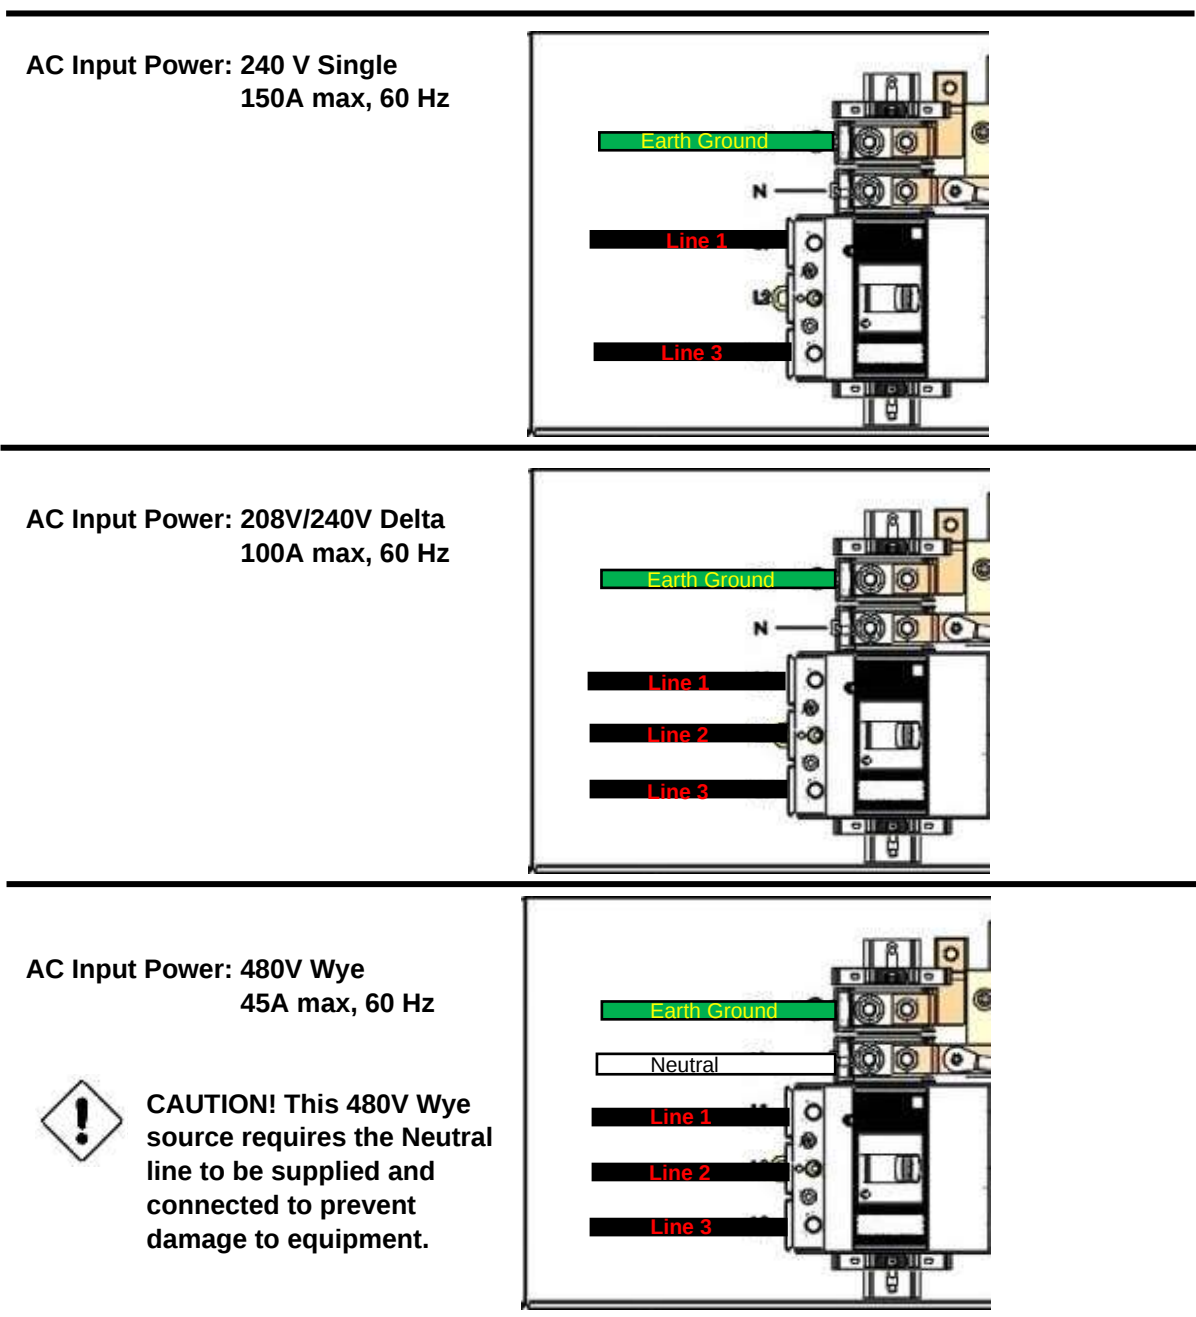

Figure 33—AC Input Power Wiring for Different AC Input Power Configurations
9. Notice the three AC input power wiring configurations shown in Figure 33, then select the wiring configuration needed for this charger.
- 10.** Wire AC Input Power to charger's AC Main Switch lugs per Figure 33 and local and national regulations, then tighten all 5 lugs (PE, N, L1, L2, and L3) to 17 N-m (150 lbs.).